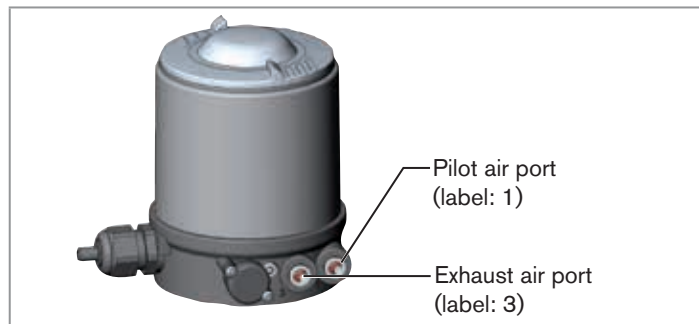

Fig. 11: Pneumatic connection
- Connect the control medium to the pilot air port (1) (3 – 7 bar; instrument air, free of oil, water and dust).
- Attach the exhaust airline or a silencer to the exhaust air port (3) (see “Fig. 11: Pneumatic connection”).